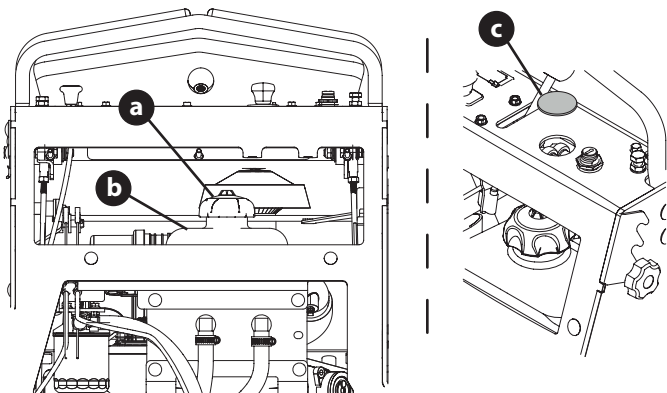

Fig. 28
4. Remove the hydrostatic transmission oil reservoir cap (a) (Fig. 28).
5. Mowers with 48, 54 or 60 inch Mowing Decks Only: Insert a funnel into the reservoir (b) (Fig. 28).
- a. Remove the black cap (c) from the control panel by reaching under the panel and squeezing the two tabs and pushing up (Fig. 28).